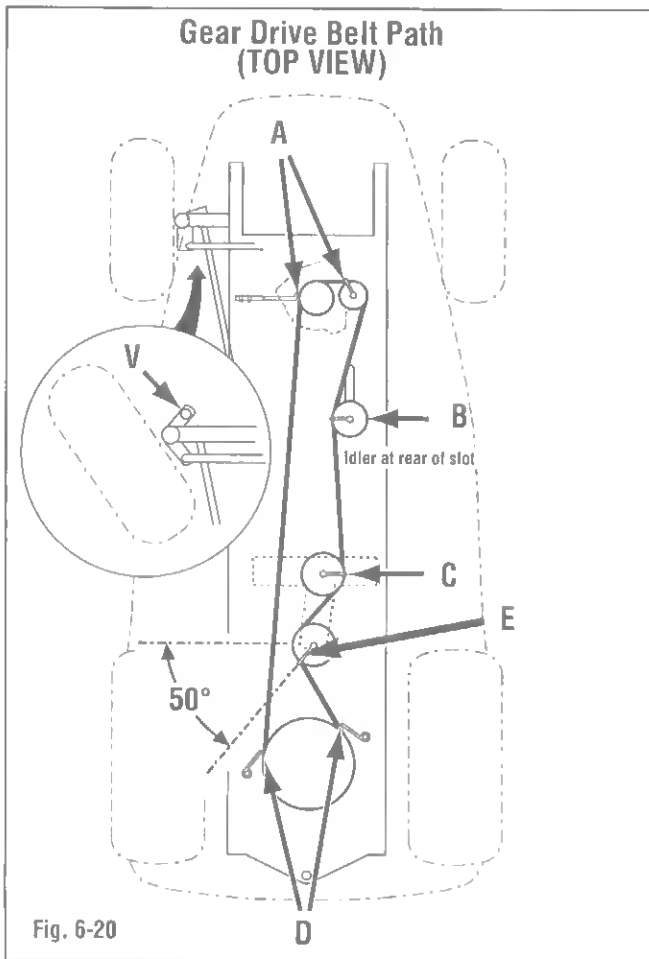

Fig. 6-20
- Route belt around sheaves as shown in Fig. 6-20.
- Adjust belt guides (A, Fig. 6-20) 1/16" to 1/8" away from belt when the belt is in the "engaged" or tensioned position. Secure guides (A).
- Adjust belt guide (B) so it is pointing straight to the left of the unit as shown in Fig. 6-20. Secure guide (B). *NDTE: Adjust idler all the way to the rear in slot.*
- Adjust belt guide (C) so it is pointing straight to the right of the unit as shown in Fig. 6-20. Secure guide (C).
- Adjust belt guides (D) 1/16" to 1/8" away from belt. Secure guides (D).
- Adjust belt guide (E) so it is pointing 50° back from straight left, as shown in Fig. 6-20. Secure guide (E).
- Adjust belt guide (Z) so it is pointing as shown in Fig. 6-20, 1/16" to 1/8" away from belt. Secure guide (Z).